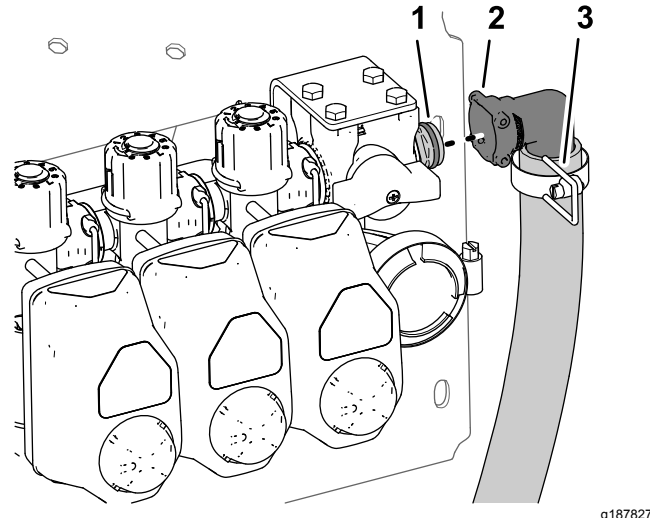

Figure 44
6. Remove the retainer that secures the 90° barbed fitting of the bypass hose to the quick-disconnect fitting of the bypass valve at the right boom-section valve, and separate the hose and valve fittings (Figure 44).